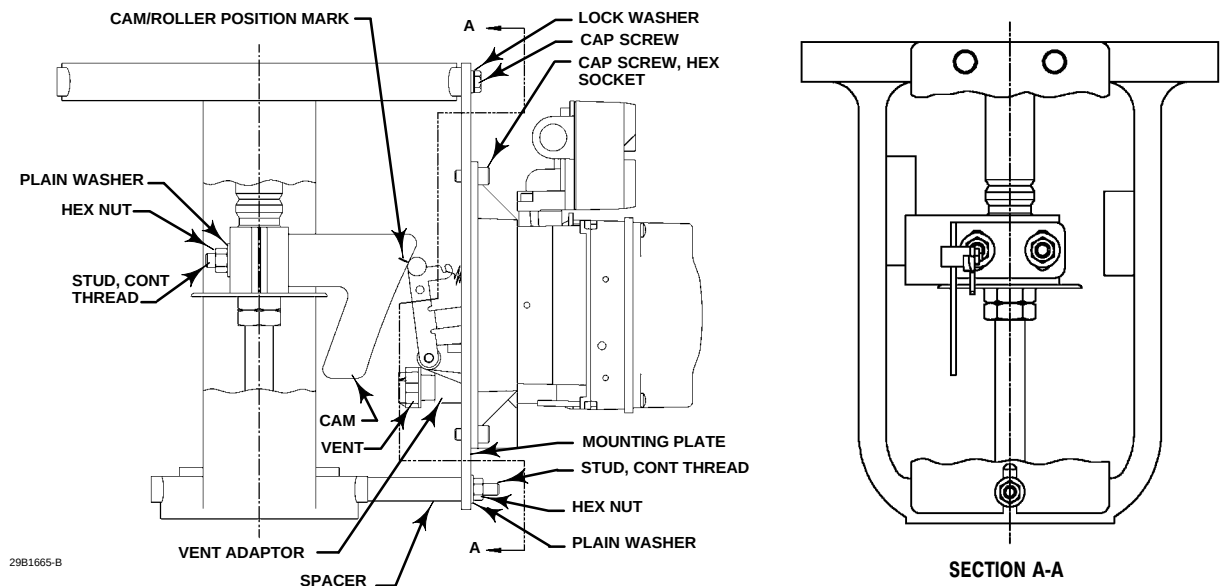
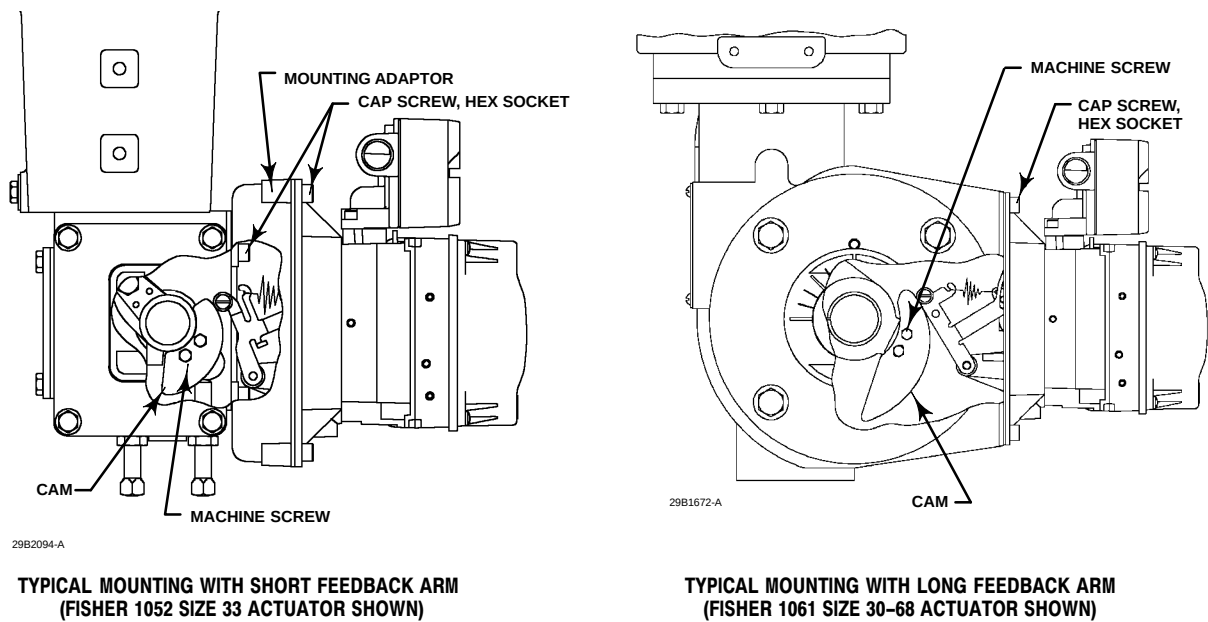

Figure 2-4. FIELDVUE DVC6020 SIS Digital Valve Controller Mounted on Long-Stroke Sliding-Stem Actuator.
Figure 2-5. FIELDVUE DVC6020 SIS Digital Valve Controller Mounted on Rotary Actuator
DVC6020 SIS digital valve controllers use a cam (designed for linear response) and roller as the feedback mechanism. Figure 2-4 shows an example of mounting on sliding-stem actuators with travels from 4 inches to 24 inches. Some long-stroke applications will require an actuator with a tapped lower yoke boss. Figures 2-5 and 2-6 show the DVC6020 SIS mounted on rotary actuators.
As shown in figure 2-5, two feedback arms are available for the digital valve controller. Most long-stroke sliding-stem and rotary actuator installations use the long feedback arm [62 mm (2.45 inches) from roller to pivot point]. Installations on Fisher 1051 size 33 and 1052 size 20 and 33 actuators use the short feedback arm [54 mm (2.13 inches) from roller to pivot point]. Make sure the correct feedback arm is installed on the digital valve controller before beginning the mounting procedure.
Refer to figures 2-4, 2-5, and 2-6 for parts locations. Also, where a key number is referenced, refer to figure 8-2. Refer to the following guidelines when mounting on sliding-stem actuators with 4 to 24 inches of travel or on rotary actuators:
- If required, a mounting adaptor is included in the mounting kit. Attach the adaptor to the actuator as shown in figure 2-5. Then attach the digital valve controller assembly to the adaptor. The roller on the digital valve controller feedback arm will contact the actuator cam as it is being attached.
8. For long-stroke sliding-stem actuators, after the mounting is complete, check to be sure the roller aligns with the position mark on the cam (see figure 2-4). If necessary, reposition the cam to attain alignment.
DVC6025 remote feedback units use a cam and roller as the feedback mechanism. Figure 2-4 shows an example of mounting on sliding-stem actuators with travels from 4 inches to 24 inches. Some long-stroke applications will require an actuator with a tapped lower yoke boss. Figures 2-5 and 2-6 show examples of mounting on rotary actuators.
As shown in figure 2-5, two feedback arms are available for the remote feedback unit. Most long-stroke sliding-stem and rotary actuator installations use the long feedback arm [62 mm (2.45 inches) from roller to pivot point]. Installations on 1051 size 33 and 1052 size 20 and 33 actuators use the
Refer to figures 2-4, 2-5, and 2-6 for parts locations. Refer to the following guidelines when mounting on sliding-stem actuators with 4 to 24 inches of travel or on rotary actuators:
- If required, a mounting adaptor is included in the mounting kit. Attach the adaptor to the actuator as shown in figure 2-5. Then attach the remote feedback unit assembly to the adaptor. The roller on the remote feedback unit feedback arm will contact the actuator cam as it is being attached.